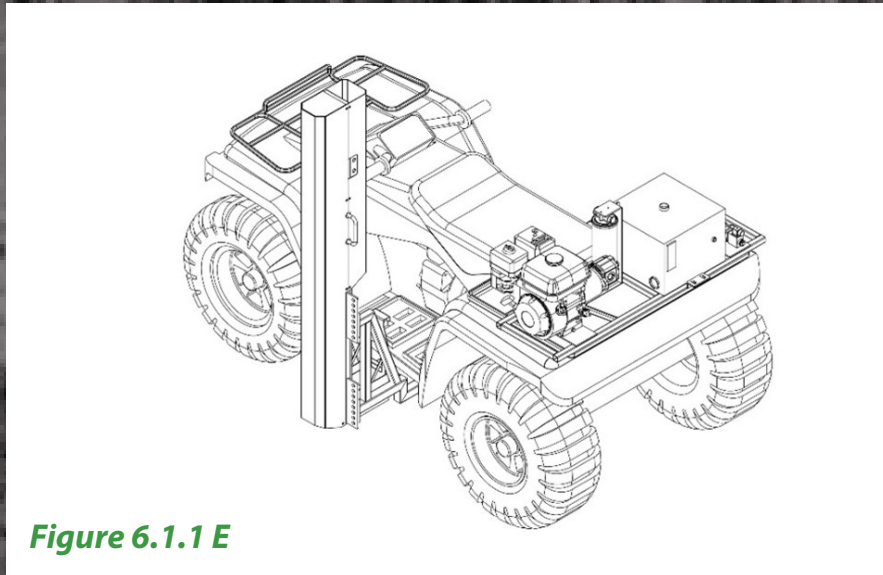

Figure 6.1.1 E
- Secure the *ATV & UTV Mast Mount* using eight 3/8 in. diameter bolts. You may use the pre-welded nuts or drill new holes as needed. See *Figure 6.1.1 C*.
- Attach the *Mast* to the *ATV & UTV Mast Mount* using the flanged bolt holes. See *Figure 6.1.1 D*.
- Mount the *Power Unit* securely in the bed or rear cargo area of the ATV or UTV. See *Figure 6.1.1 E*.